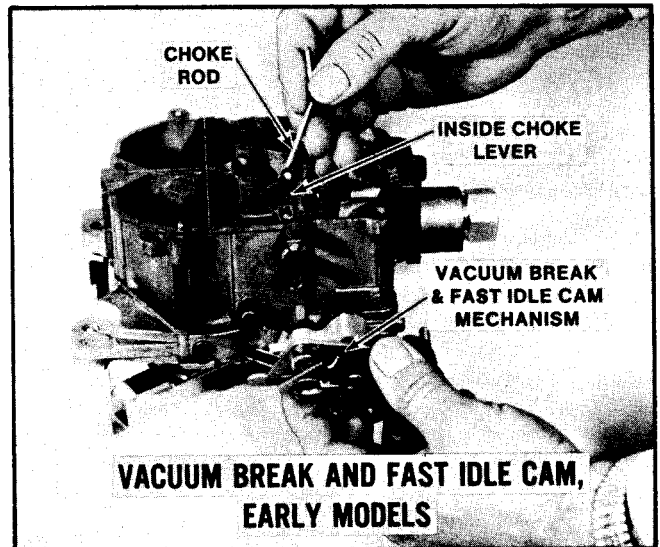

Figure 55 Vacuum Break and Fast Idle Cam - Early Models
2. Remove retaining screw from choke vacuum break bracket assembly and remove assembly from float bowl. If not removed previously, vacuum break rod can now be removed from the main vacuum break plunger by rotating rod out of plunger stem (Figure 55).